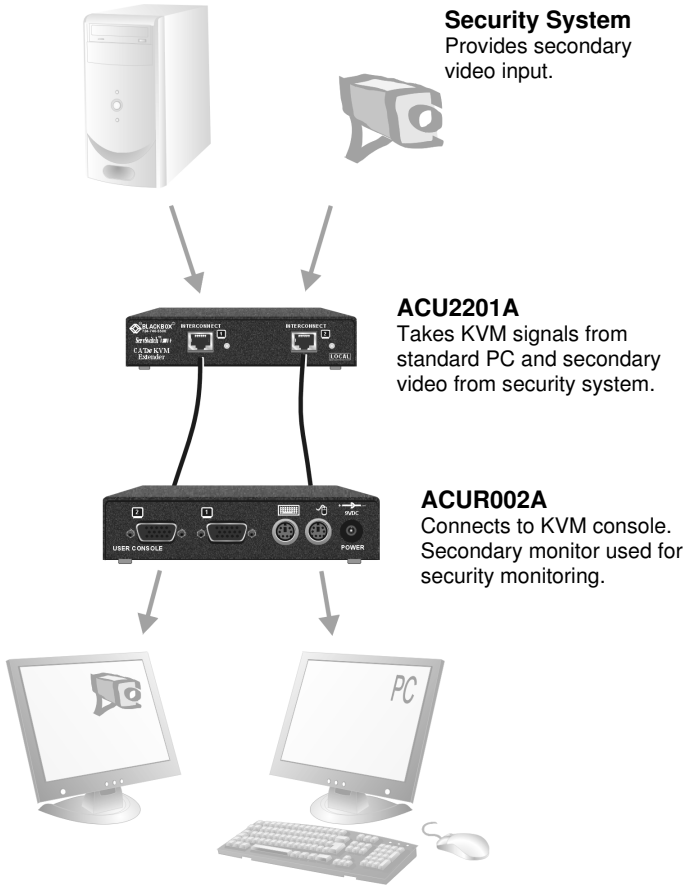

Figure 16 Extender system with second screen for security monitoring
- Extender system with second screen for security monitoring (Figure 16).